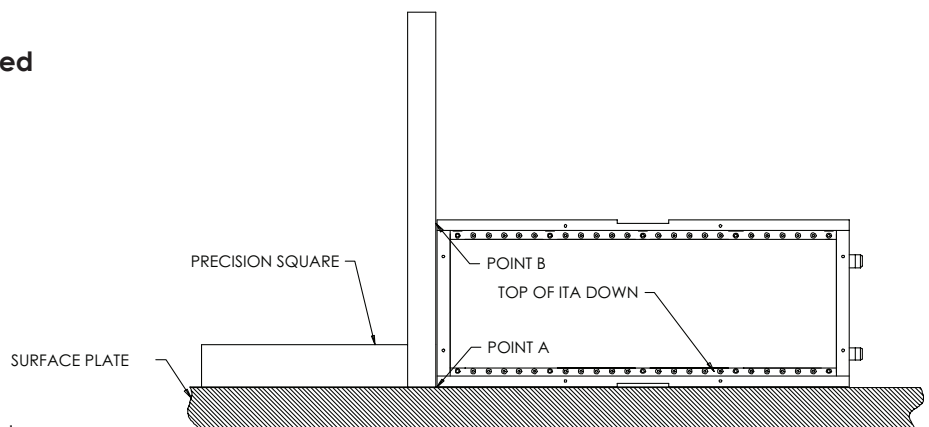

FIGURE 1
1. Place ITA onto a Surface Plate with the ITA Frame's top on the Surface Plate and contact side facing you as illustrated in **Fig. 1**.
3. Place Feeler Gage at point A and B (**See Fig. 1**).